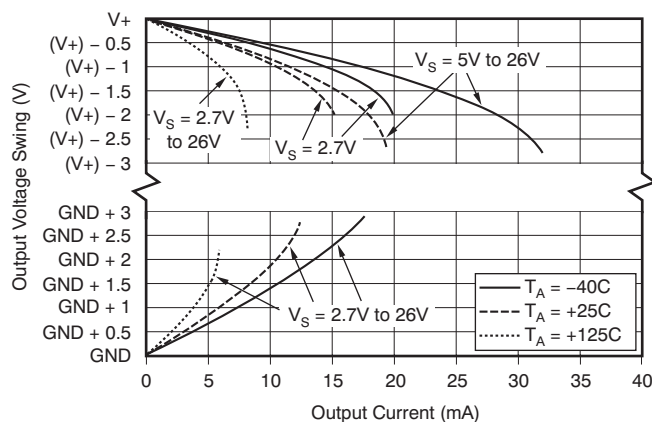

Figure 10.
(1) Full range $T_A = -40^\circ\text{C to } 125^\circ\text{C}$
(2) RTI = referred to input
(3) Not production tested
(4) See Typical Characteristic, *Output Voltage Swing vs Output Current* (Figure 10).